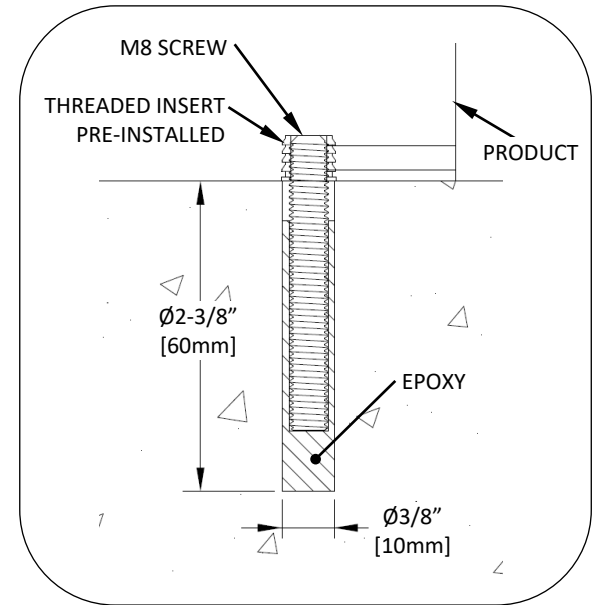

Fig. 3– embedded anchor detail
1. Thread M8 set screws into threaded inserts in bottom of unit. See Fig. 3.